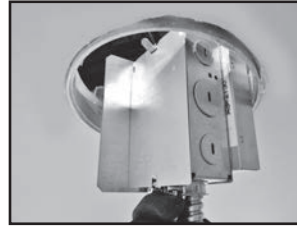

Figure 21
5. Place retrofit driver assembly through ceiling/housing opening (Figure 21).